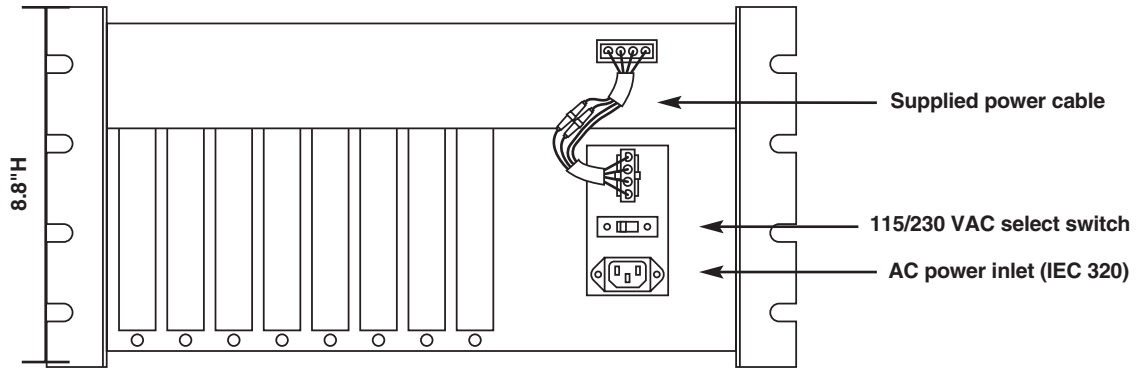
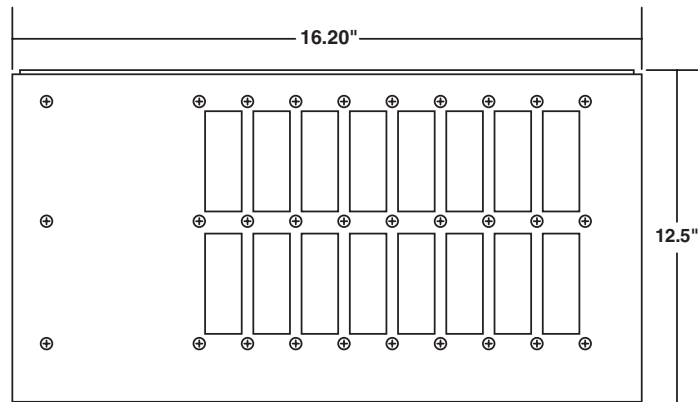

Fig. 2-2. Rear View of the Rack.
Fig. 2-3. Top View of the Rack.
Figure 2-1 on the next page shows the front view of the Rack, and Fig. 2-2 on page 6 shows the rear view of the Rack. Figure 2-3 on page 6 shows the top view of the Rack.
3. Run the included cable (see Figure 3-1 below) from the power supply to the power-distribution bus. Refer to Fig. 2-2 on page 6.